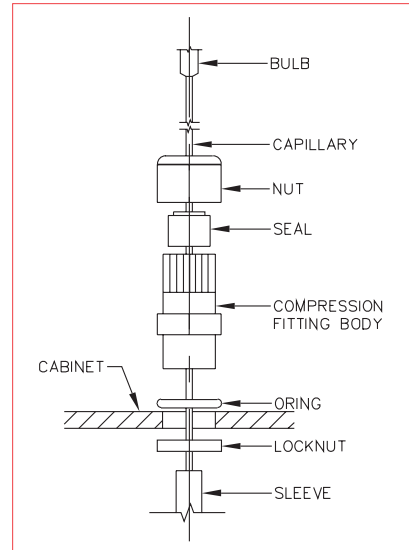

Figure 9
3. Remove compression nut from the fitting (see Figure 9). Remove seal from fitting. Remove fitting from capillary.
9. Place compression fitting body over capillary. Install seal on capillary and insert seal into body of fitting (see Figure 9).